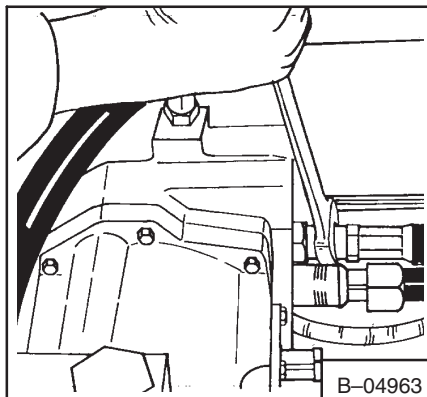

**Fig. 3-91** Removing Hoses
7. Remove the hoses from the port block (Fig. 3-91).